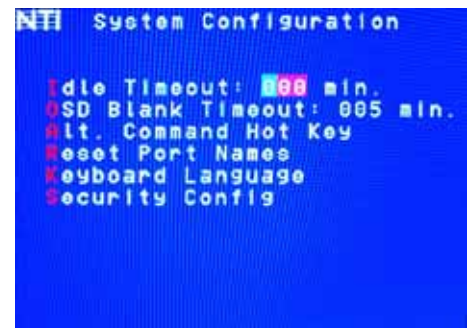

Figure 29- Change value of Idle Timeout
1. press  from the System Configuration menu (page 22) to display the pink edit field around the value (see Figure 29)